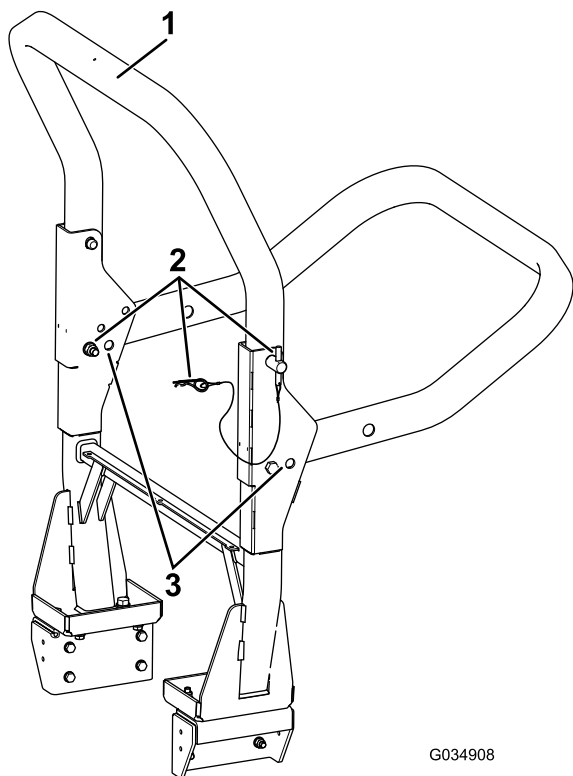

Figure 34
2. Support the weight of the upper frame while removing the R-clips and pins from the pivot brackets (Figure 34).